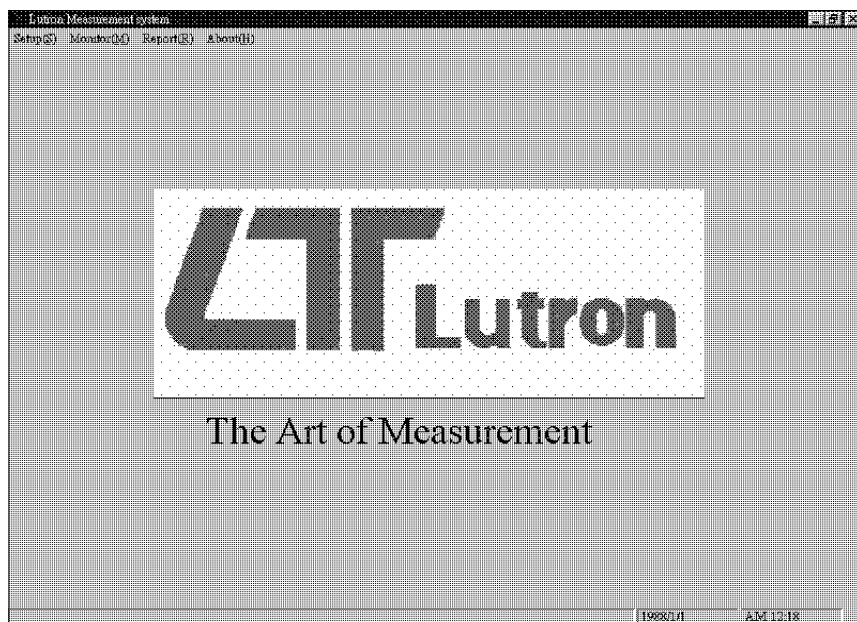
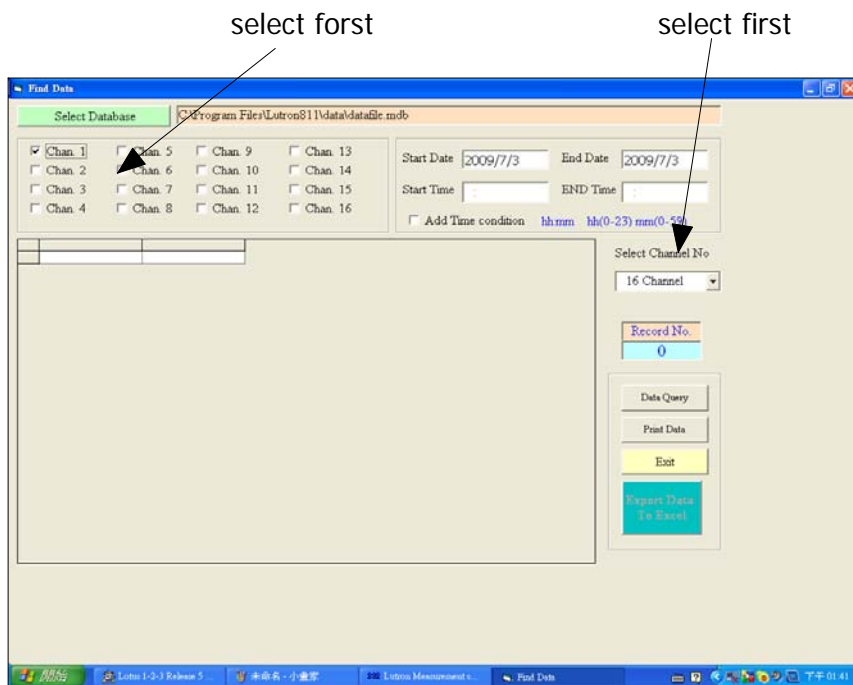

Fig. 1
Fig. 9
After run the program & the computer will show the Fig. 1.
1. Select " Angular Display " from the commander line of measurement system dialog box (Fig. 1), and you will see the *Angular Display dialog box with four sheet.*
Select the Data Query from the " Report " menu in the Measurement system dialog box. (See Fig. 1) to entry the " Data Query 16 " Data program. (See Fig. 9)
- * **Before make the data query, it should select the channel no. of Database (Chan. 1 to Chan. 16) and the sampling date at first, refer to Fig. 9, page 20.**